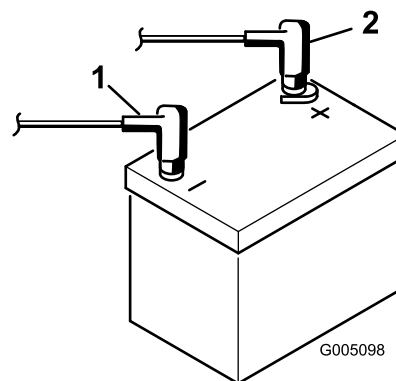

Figure 7
9. Install the positive cable (red) to the positive (+) terminal and then the negative cable (black) to the negative (-) terminal of the battery and secure them with the bolts and nuts (Figure 7). Slide the rubber boot over the positive terminal to prevent a possible short from occurring.